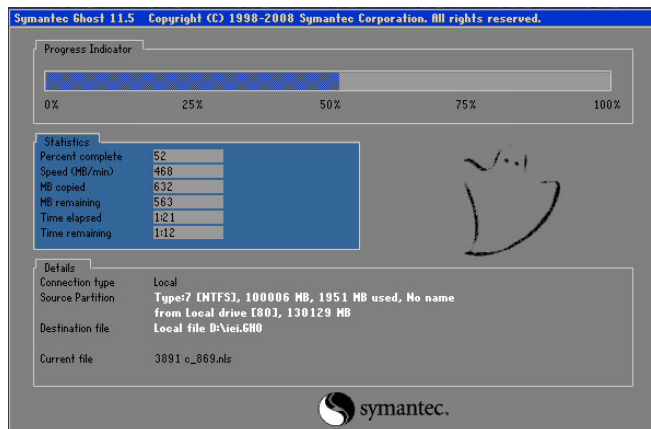

Figure B-19: Image Creation Complete
**Step 10:** The Symantec Ghost starts to create the factory default image (Figure B-19).